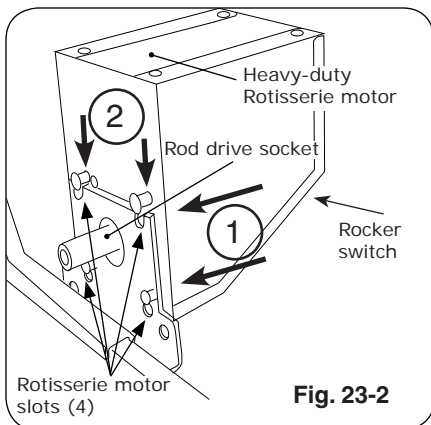

Fig. 23-2
12. Plug-in the rotisserie motor and press the rocker switch to start (Fig. 23-2).